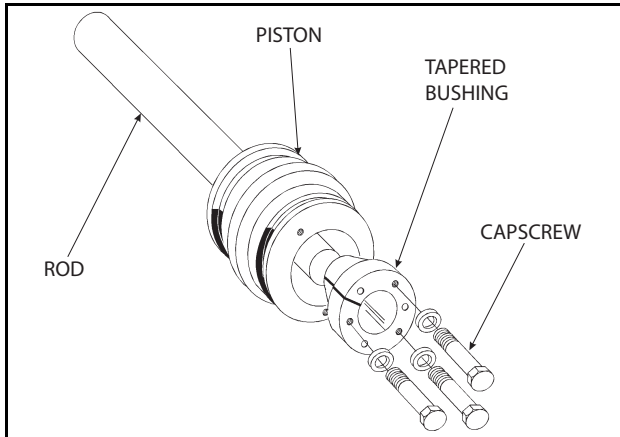

Figure 5-34. Tapered Bushing Removal
- Tighten the capscrews evenly and progressively in rotation refer Figure 5-34. and Figure 5-33.